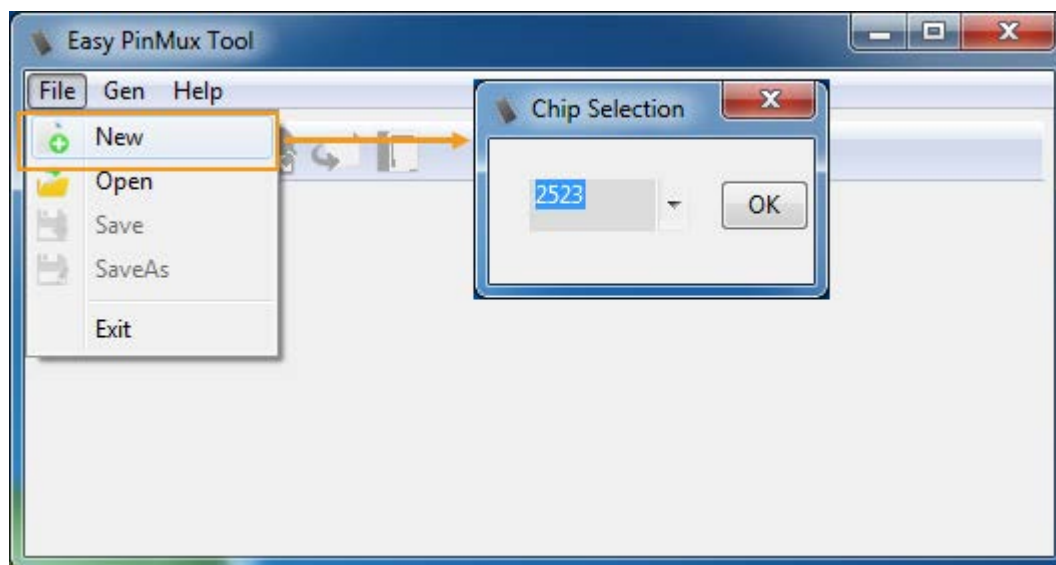

Figure 3. Create a new workspace
- 1) In **File** menu, click **New**, and provide the chipset under **Chip Selection** to create an empty workspace, as shown in Figure 3.